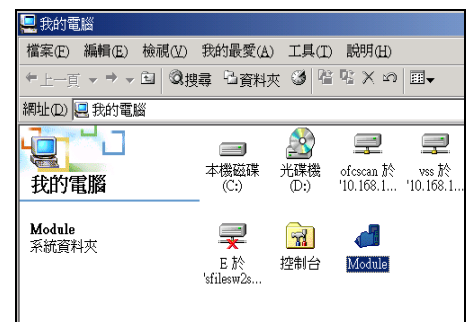

Figure 6
7. Power on LGG, open file explorer of the host machine. You can see a module icon; (Figure 6)